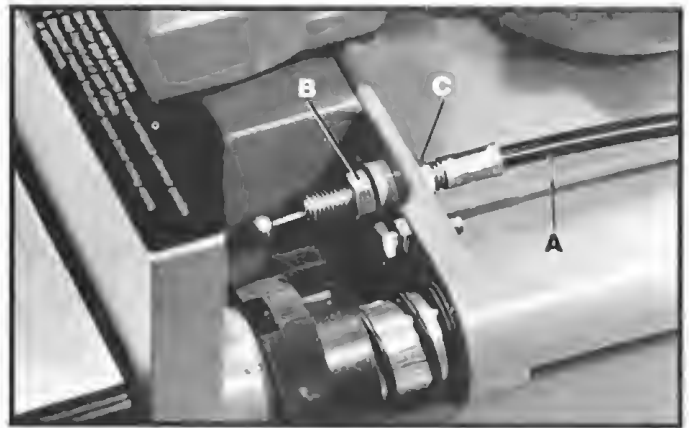

Fig. 10
The cable assembly (A) Fig. 10, is shipped from the factory with one end of the cable assembled to the foot pedal. The free end, however, must be mounted to the rear of the machine, as follows:
1. Insert the cable assembly (A) Fig. 10, thru hole in casting and fasten using hex nut (B) supplied. **NOTE:** Hex nut (C) was threaded onto cable assemble at the factory.